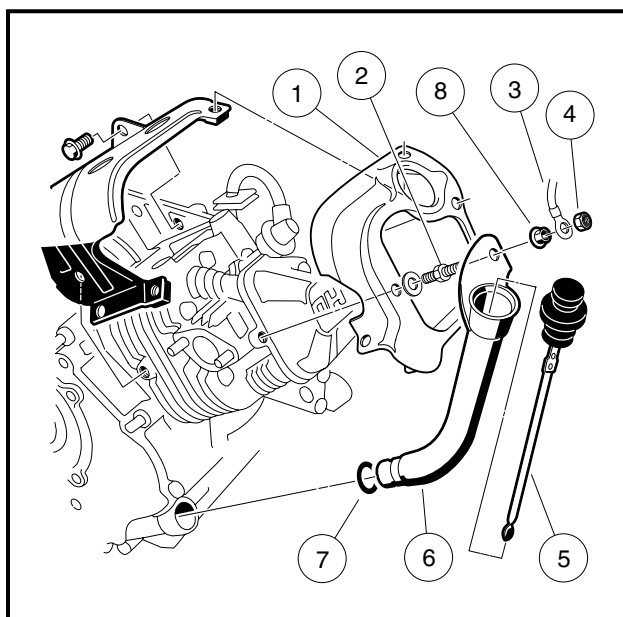

Figure 3-34 Oil Filler Tube and Ground Wire
2. Install lower, upper, and head shrouds (1) along with two-ended bolt (2) (**Figure 3-34, Page 3-19**).
4. Connect the ground wire (3) to the two-ended bolt and install and tighten the nylon locknut (4) to 50 in-lb (5.6 N·m). Insert the dip stick (5) (**Figure 3-34, Page 3-19**).